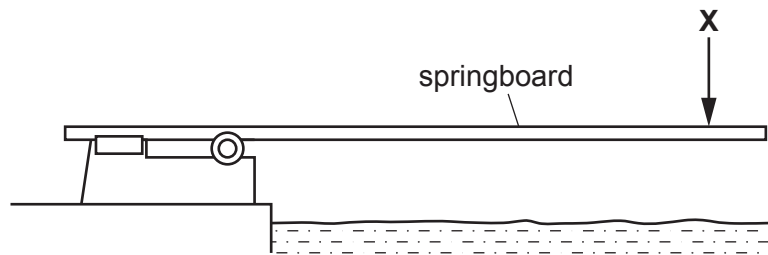

Fig. 2.1
- 2 Fig. 2.1 shows a diving springboard.